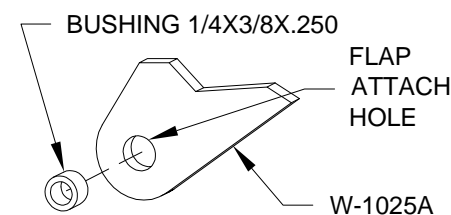

FIGURE 4: BUSHING PRESS FIT
Step 13: Press fit a BUSHING 1/4X3/8X.250 into the flap attach hole in each of the six W-1025A Flap Hinge Brackets. See Figure 4.